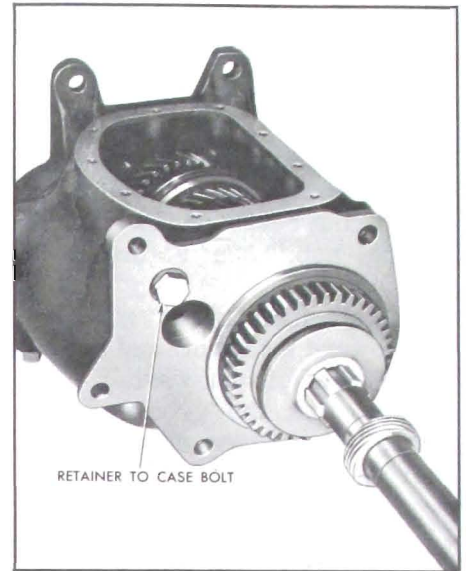

Figure 4-145—Bearing Retainer to Transmission Bolt
13. Install the self-locking bolt attaching rear bearing retainer to transmission case, (see Figure 4-145). Torque to 20 to 30 ft. lbs.